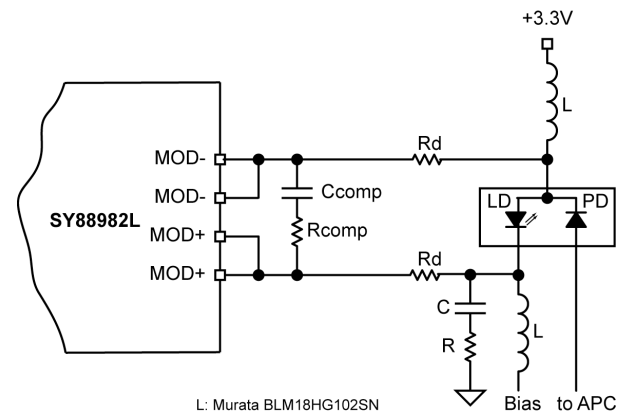

Figure 3. Laser DC-Coupled
The typical applications diagram on the first page shows how to connect the driver to the laser, single ended. To improve transition time and laser response, the laser can be driven differentially as shown in Figures 3 and 4. Driving the laser differentially will also minimize the cross talk with the rest of the circuitry on the board, especially the receiver.
$L di/dt$ is the voltage drop due to the laser parasitic inductance during I_{mod} transitions. Assuming $L = 1nH$, $t_r = t_f = 80ps$ (measured between 20% and 80% of I_{mod}), and $I_{mod} = 70mA$ (42mA from 20% to 80%), then $L di/dt$ will be equal to 525mV. This number can be minimized by making the laser leads as short as possible and using an RC compensation network between the cathode of the laser and ground or across the laser driver outputs as shown in Figure 3.
On the other hand, the small is the value of R_d , the higher is the overshoot/undershoot on the optical signal from the laser. In the circuit shown in Figure 3, the RC compensation network across the driver outputs (MOD+ and MOD-) allows the user $R_d = 10\Omega$. The optical eye diagrams at data rates of 155Mbps/622Mbps/1.25Gbps/2.5Gbps, shown in "Functional Characteristics" section, are all obtained with the same circuit using $R_d = 10\Omega$, $R_{Comp} = 100\Omega$, and $C_{Comp} = 3pF$. The compensation network may change from one board to another and from one type of laser to another. An additional compensation network (RC) can be added at the laser cathode for further compensation and eye smoothing.